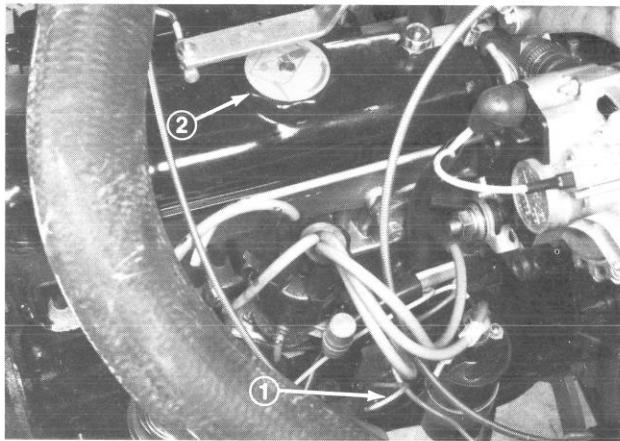

Figure 15
3. Remove dipstick and wipe it with a clean rag. Push dipstick down into the tube and ensure it is seated fully. Pull dipstick out of the tube and check level of oil. If oil level is low, remove filler cap (Fig. 15) and add enough oil to raise level to top of flat at end of dipstick. DO NOT OVERFILL.